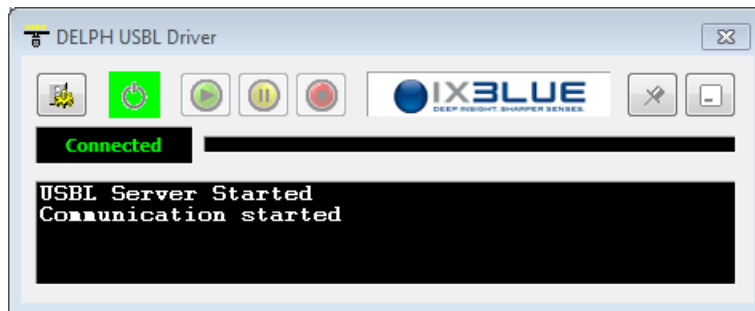

Figure 31 – DELPH USBL driver
The USBL positions (real-time data flow or logged data file) are read by DELPH RoadMap via DELPH USBL driver (see Figure 31). DELPH USBL driver is accessible from DELPH RoadMap application.
1.	In DELPH RoadMap main window, select the menu USBL > USBL Driver... The window of the DELPH USBL Driver opens. See Figure 31.
The window of the DELPH USBL Driver opens. See Figure 31. |